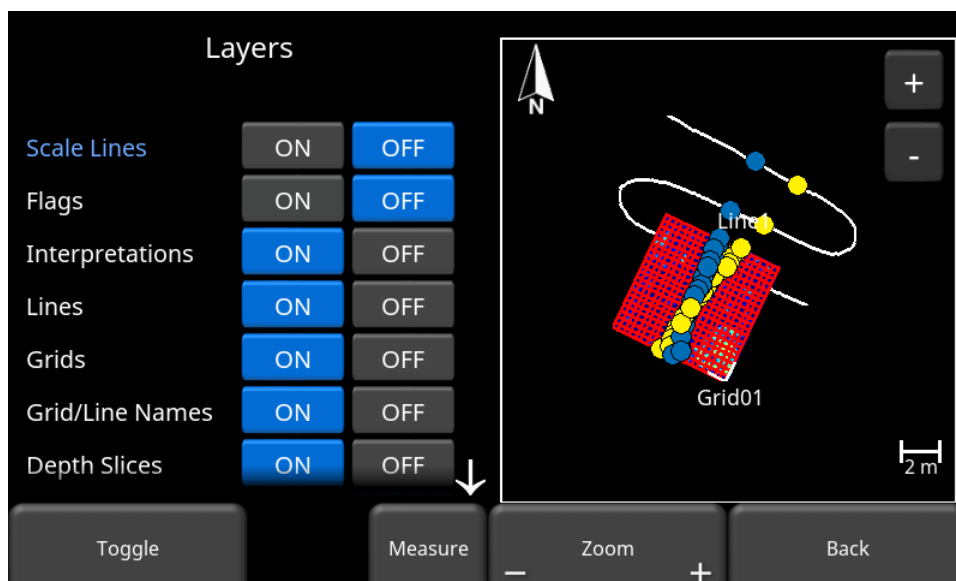

Figure 9-5: Flags turned off
- **Flags** – controls the display of flags (Figure 9-5)